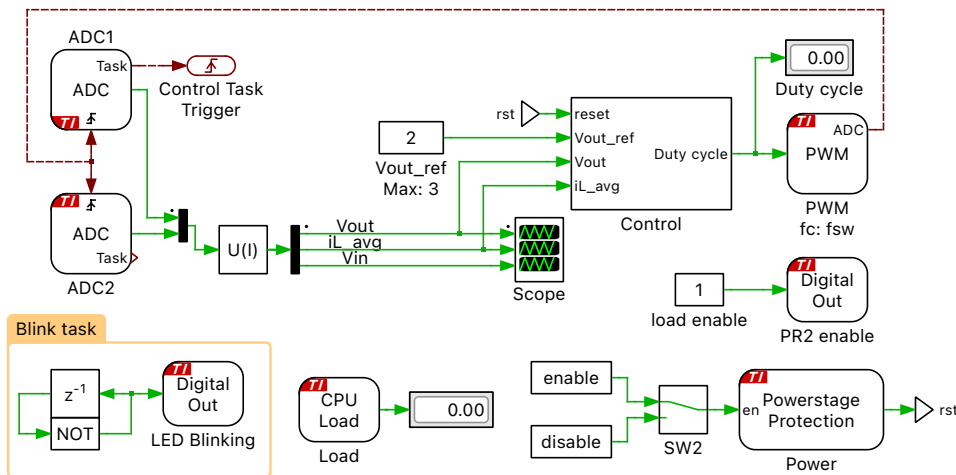
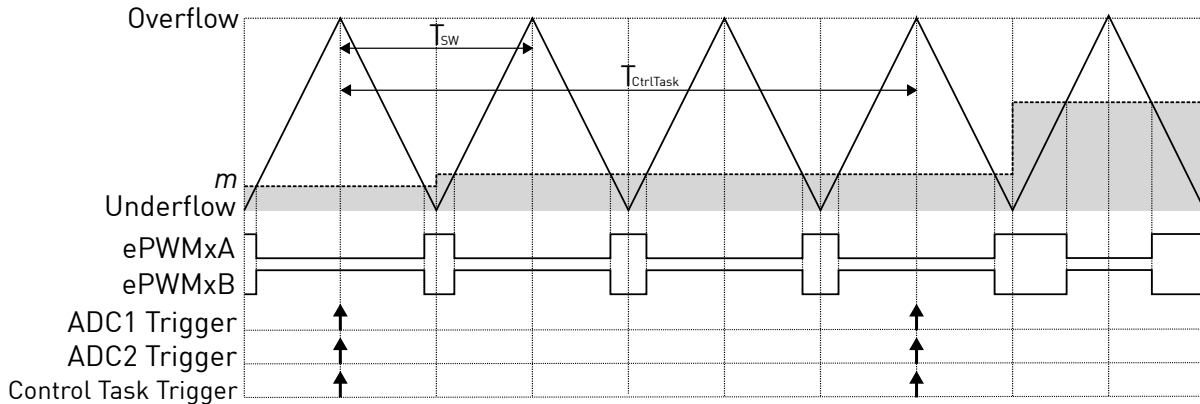

Figure 3: Controller of the BOOSTXL-BUCKCONV BoosterPack
Figure 5: PWM carrier, ADC and task interrupts
The controller subsystem is shown in Fig. 3. The key interface signals between the BOOSTXL-BUCKCONV, RT Box and the supported TI LAUNCHXL evaluation boards are described in Table 1.
- Control Task Trigger** In this model, the interrupt sequence of the embedded application is defined explicitly by connecting trigger signals between the PWM generator, the ADC, and the Control Task Trigger. Trigger signals are shown as red dashed lines as seen in Fig. 3. From the **Events** tab of the PWM block parameter window, the **ADC trigger** parameter is configured as Overflow, and the **ADC trigger divider** is set to 3 for the TI2837x, and 6 for the TI28004x MCU. This means that the ADC start-of-conversion is triggered after set number of Overflow events. Fig. 5 shows the corresponding PWM carrier, ADC and task trigger, and PWM outputs for an **ADC trigger divider** set to 3.
By default, the C2000 target support package will only update the ePWM duty cycle register on PWM underflow and overflow events to prevent data corruption. In Fig. 5, note the delay between